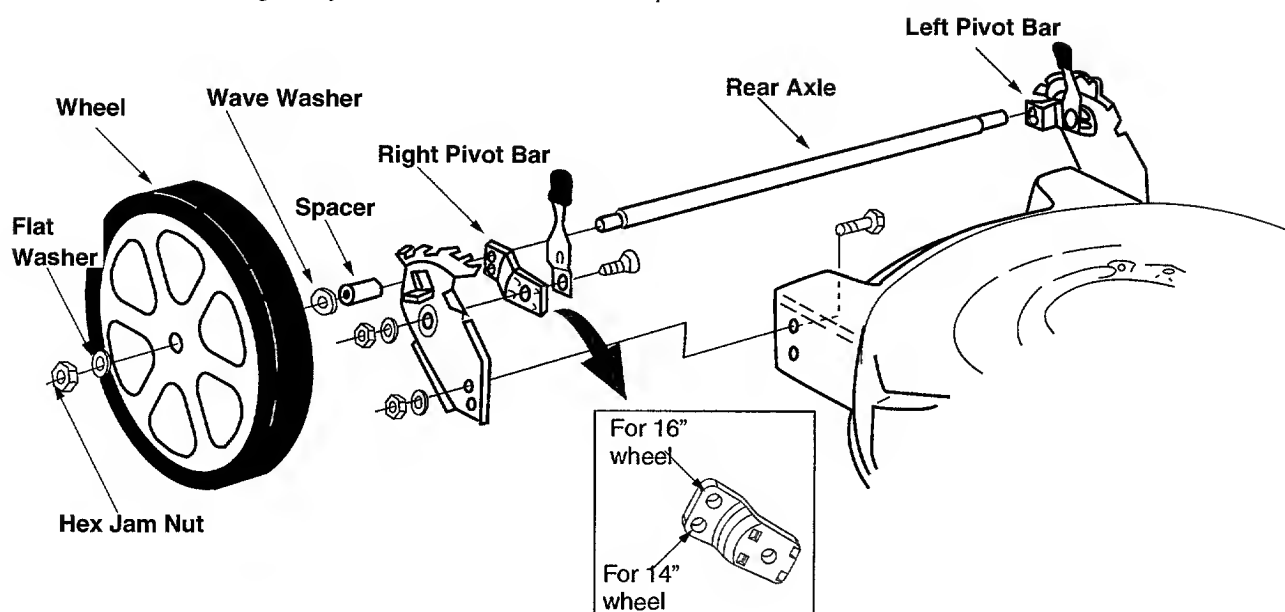

FIGURE 7
**IMPORTANT:** There are two holes on the pivot bar. You will have to attach the axle shaft through the top hole of the right pivot bar in case of 16" diameter wheels, and through the bottom hole in the case of 14" diameter wheels. Use the same corresponding holes on the left pivot bar. See Figure 7 inset.
- Rotate the axle shaft until first tab on the right side of the axle shaft clears the hole in the right pivot bar. Rotate further until second tab on the right side of the axle shaft locks into the hole in the same pivot bar. The tab on the left side of the axle shaft should hit on the surface of the left pivot bar. See Figure 7.
- Place wheel assembly on end of axle. Secure with one flat washer and one hex jam nut. See Figure 7. Tighten securely.